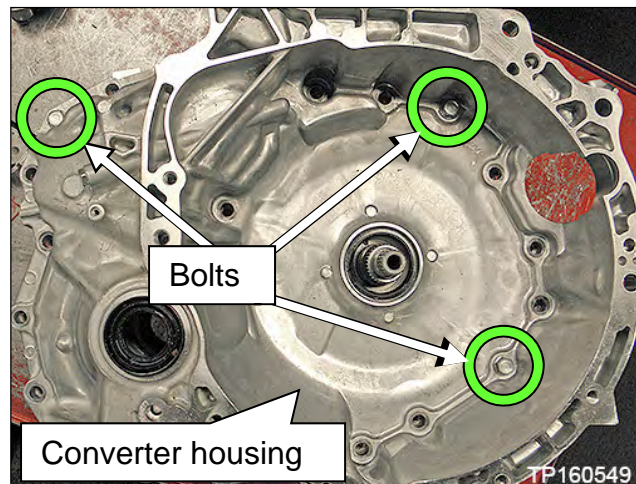

Figure 70
52. Temporarily install the dummy cover with three (3) bolts, finger tight.
53. Temporarily install the converter housing onto the CVT case with three (3) bolts finger tight (Figure 70).